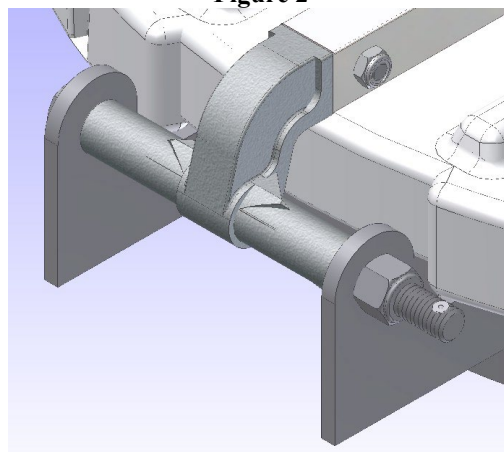

Figure 4
9. Using the appropriate rivet gun, apply pop rivet to the hole in the end of the bolt. See Figure 4.